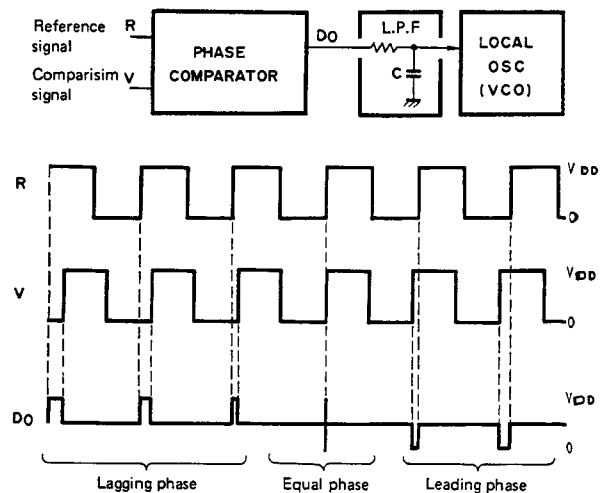

Fig. 11
- *3 A digital phase comparator is made up of a combination of NAND gates. Fig. 11 shows the waveform of the phase comparator output. The comparator output is applied to a low-pass filter (loop filter), and the voltage obtained by charging and discharging the filter capacitor is used as a control voltage.